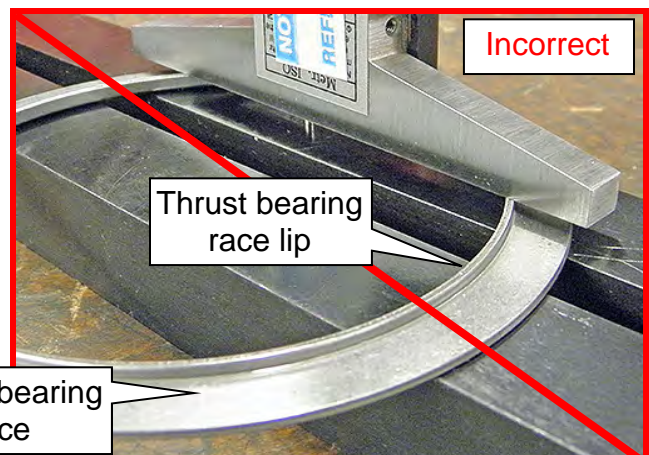

Figure 11GG
**IMPORTANT:** Do not measure from the thrust bearing race lip (Figure 11GG).